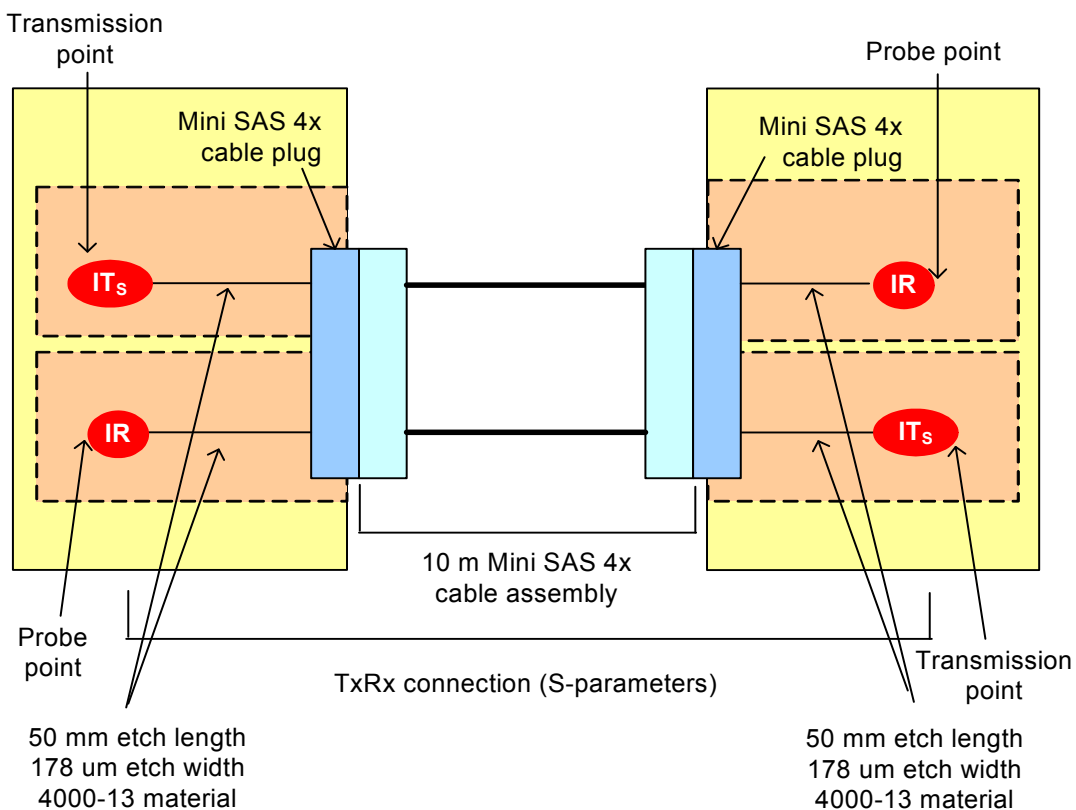

Figure A.1 — S-parameter model of the reference transmitter test load
- a) an etch length of 50 mm with an etch width of 178 μm between the IT_s (see 5.3.6.5.4) and the Mini SAS 4x cable plug (see figure A.1) in Nelco® 4000-13 material environment;
- c) an etch length of 50 mm with an etch width of 178 μm between the IR (see 5.3.7.4.3) and the Mini SAS 4x cable plug (see figure A.1) in Nelco® 4000-13 material environment.
The following lists equipment that may be used to replicate the S-parameter model shown in figure A.1: